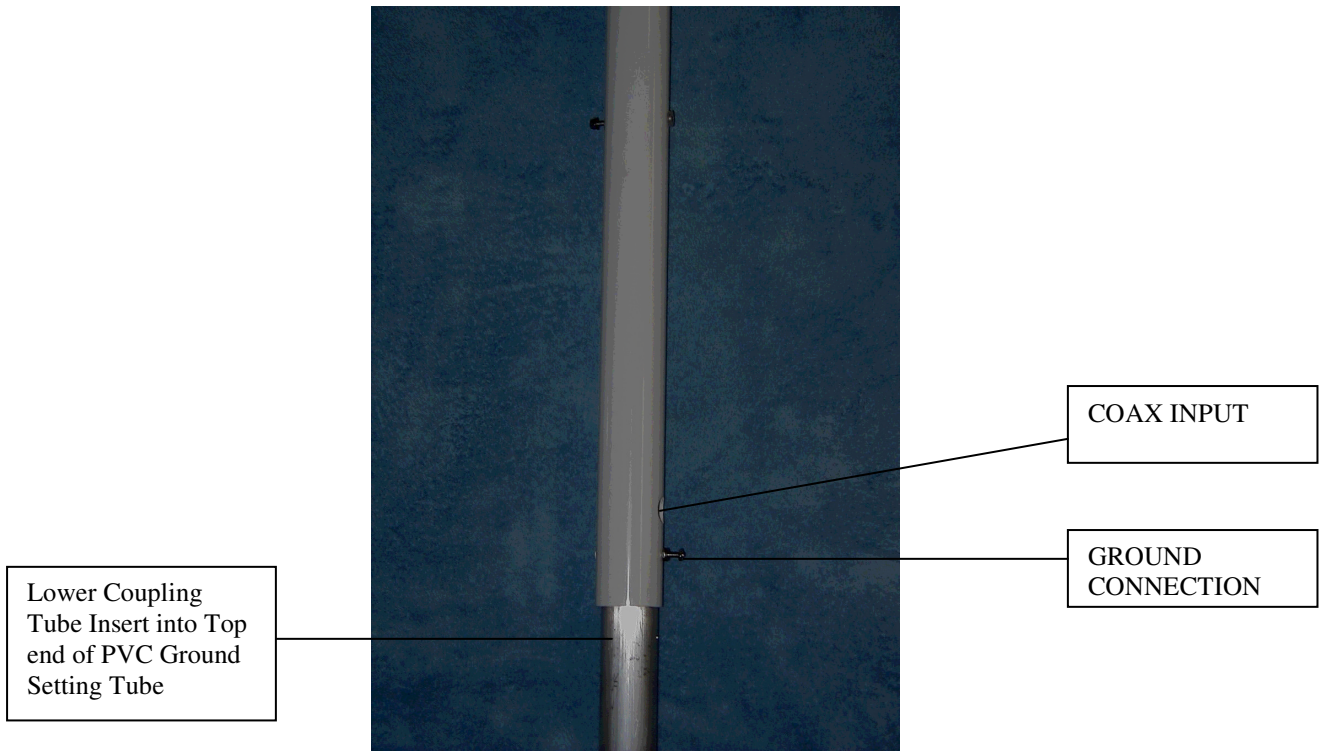
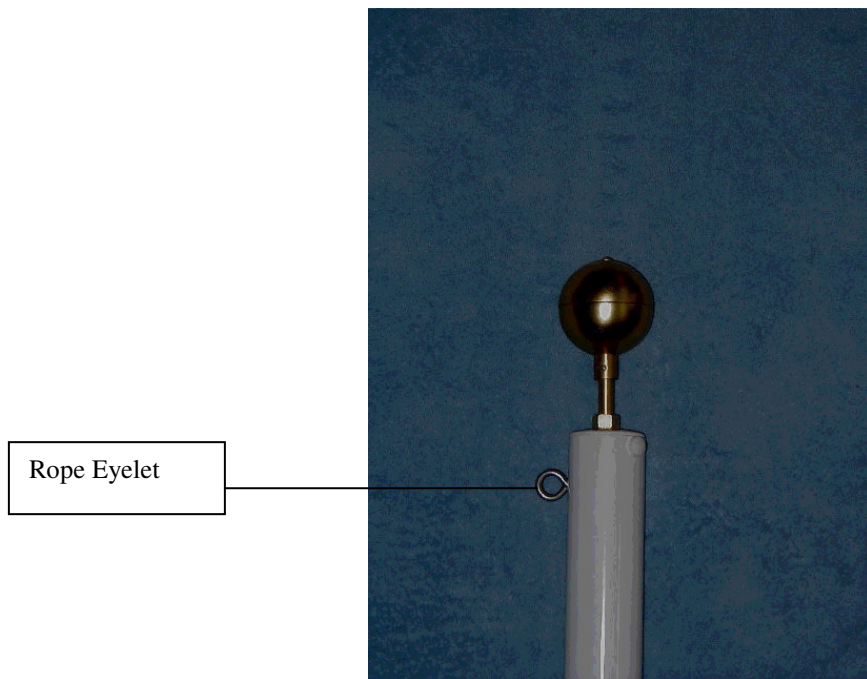

Figure 1
Figure 2
11. Align the mounting holes and insert two (2) # 10-32 X 1/2 inch screws. (See figure 2)
13. Align the mounting hole located at the bottom of the 6-foot white PVC top tube and insert (4) four # 10-32 X 3/8 inch screws.
15. Install a # 10-32 X 3.000 inch GROUND SCREW at the bottom of the PVC Base Tube Assembly. Insert the screw through the PVC tube from the side away from the coax input. The PVC hole has been enlarged to recess the screw head thus allowing it to make contact with the metal base pipe. (See figure 1)
16. Install a # 10-32 Hex Nut to the # 10-32 X 3.000 inch screw protruding through the PVC tube directly below the coax input connector and tighten securely. Install two (2) flat washers and another #10-32 hex nut. (See figure 1) DO NOT TIGHTEN SECOND HEX NUT AT THIS TIME
5. Connect the ground radial assembly to the # 10-32X3.000 inch antenna GROUND SCREW located directly below the coax feed point connector. (See figure 1)
7. Connect the other end of the ground wire coming from the ground rod to the antenna GROUND SCREW. (See figure 1)